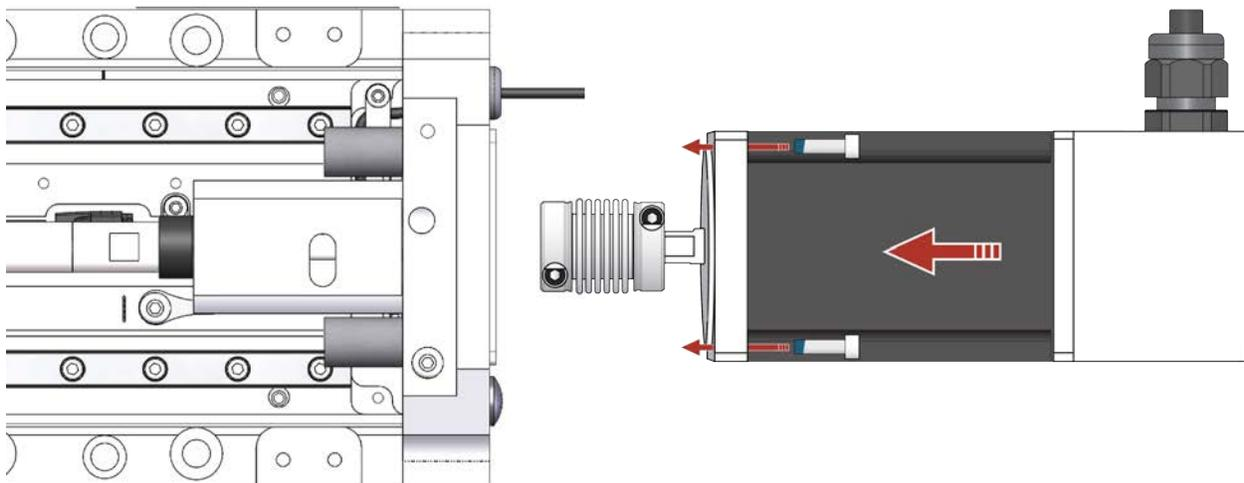

Figure 4-5: Attach the Motor the Stage
6. Attach the Motor to the Stage in the correct orientation (Figure 4-5). Use a hex wrench to ensure that the motor flange is fully seated and the hardware is tight. The motor housing prevents the use of a torque wrench.